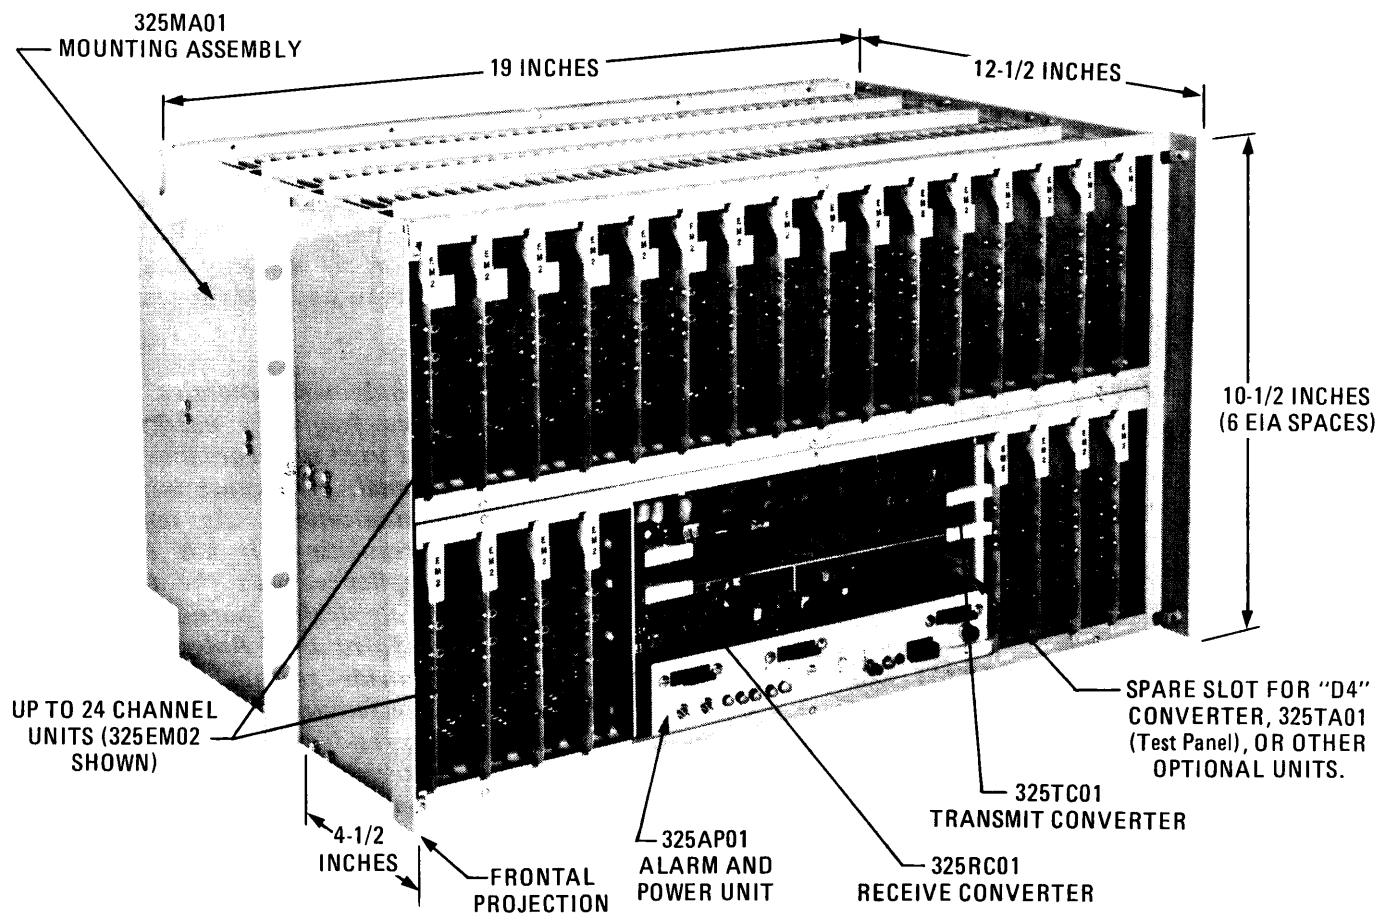

Fig. 1—Lynch B325 Terminal (D3 Version)
1.03 The B325 terminal is shown in Fig. 1. Dramatically smaller than most terminals in the D3 field, the B325 occupies only six mounting spaces (10-1/2 inches) in a 19-inch relay rack. It